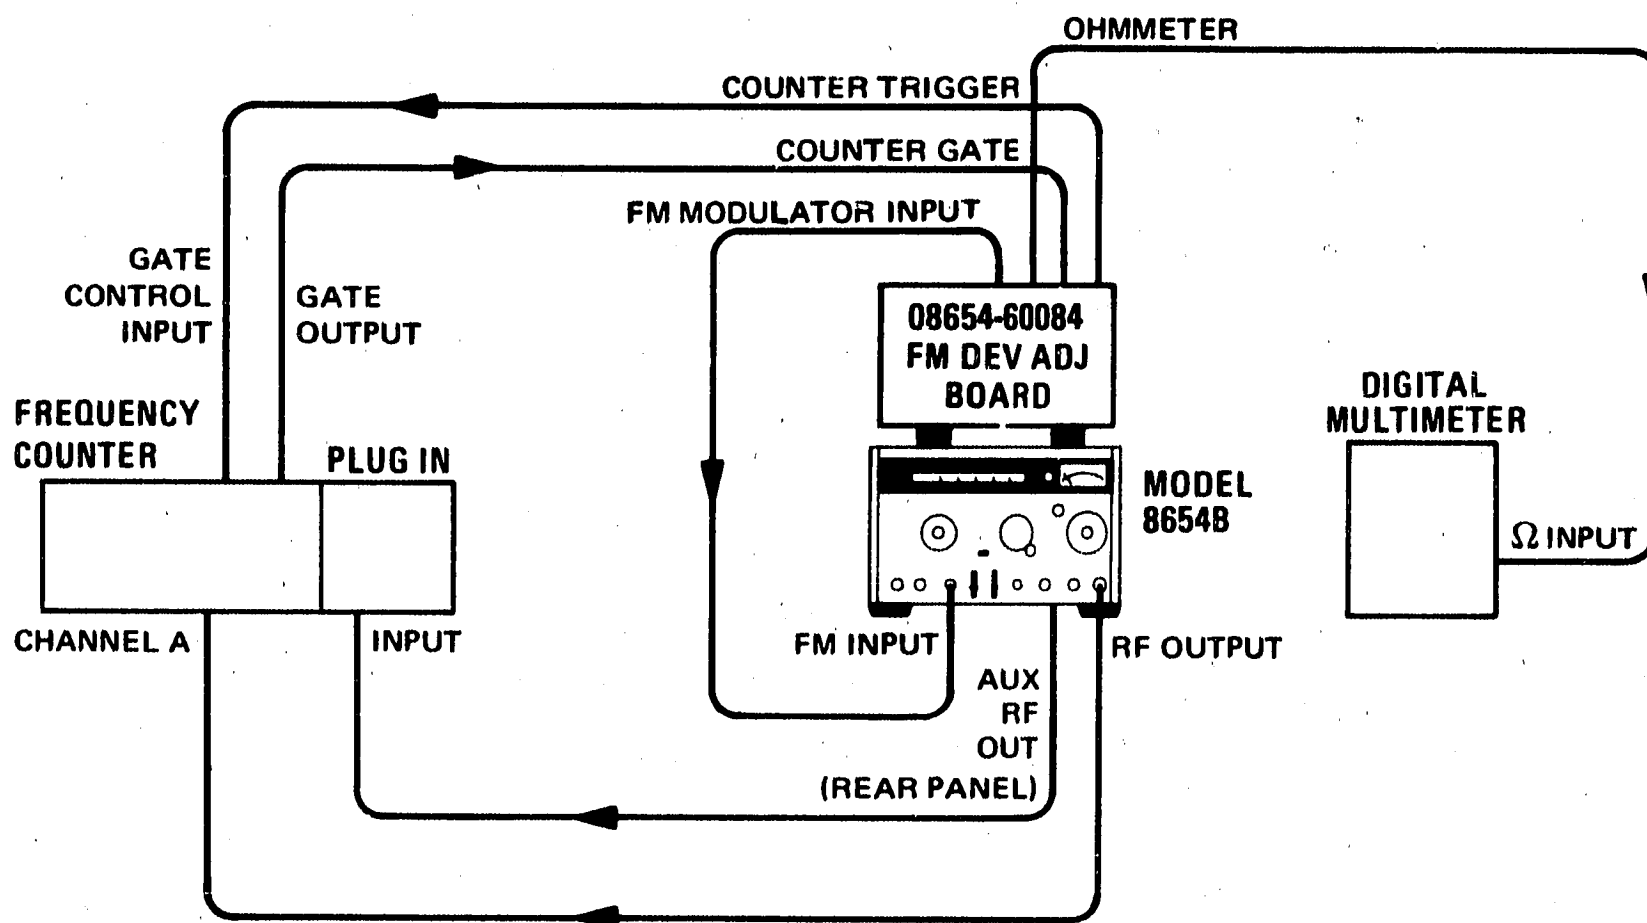

Figure 5-8. FM Deviation Adjustment Setup
3. Interconnect instruments as shown in Figure 5-8.